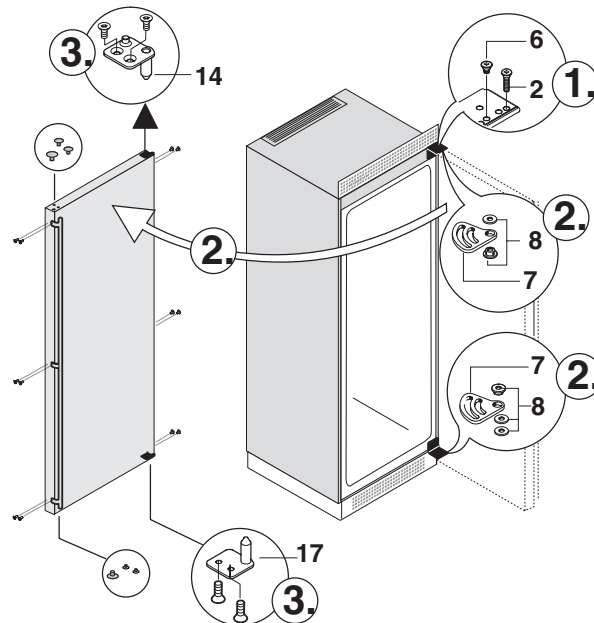

Figure 4
1. **Figure 4:** Unscrew the hinge pin (2) and remove the screw (6).
2. Swivel out the door at the top, ensuring that you do not lose the stop (7), bushing (8) and washers up and down; lift off the door and place it on the floor.